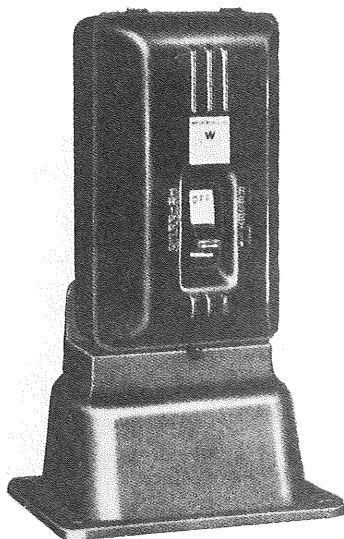
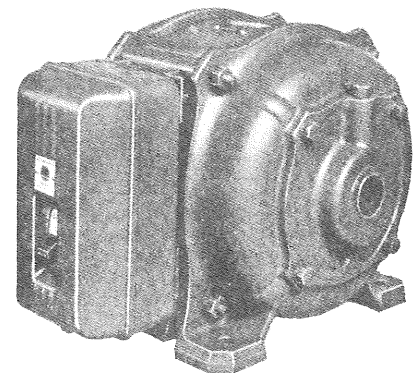

FIG. 8—"DE-ION" MOTOR WATCHMAN ON PEDESTAL
FIG. 9—"DE-ION" MOTOR WATCHMAN MOUNTED ON LOOM MOTOR
**For Textile Loom service** special mountings are available either on the side or top of the special loom motor (Fig. 9) or on pedestals (Fig. 8) which are designed for floor mounting over a junction box.